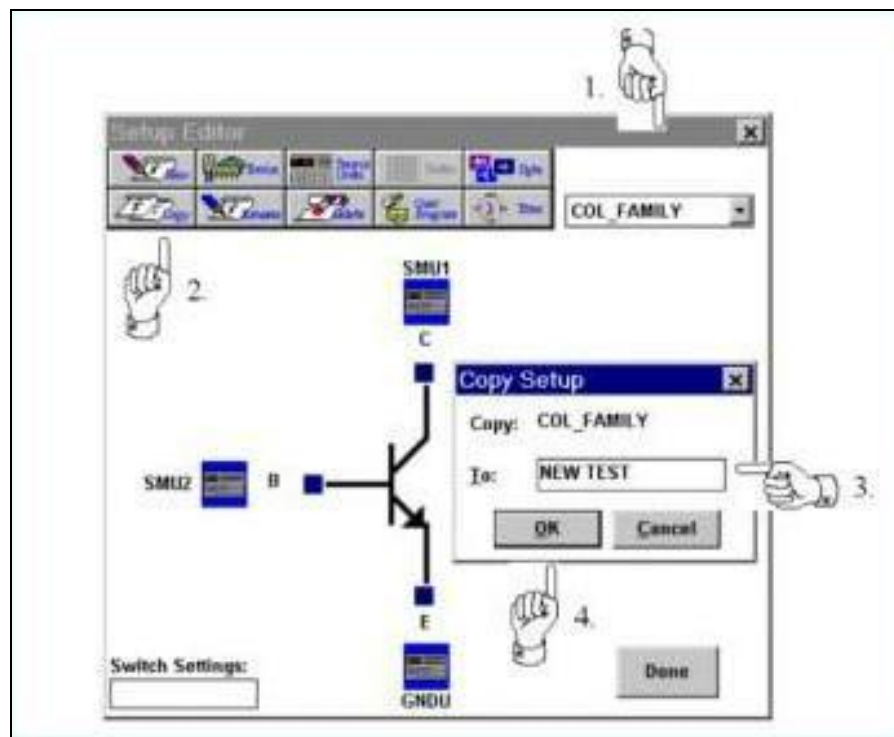

Figure 6
- ii. Select the Device button to define a new measurement with the proper polarity (Figure 6).